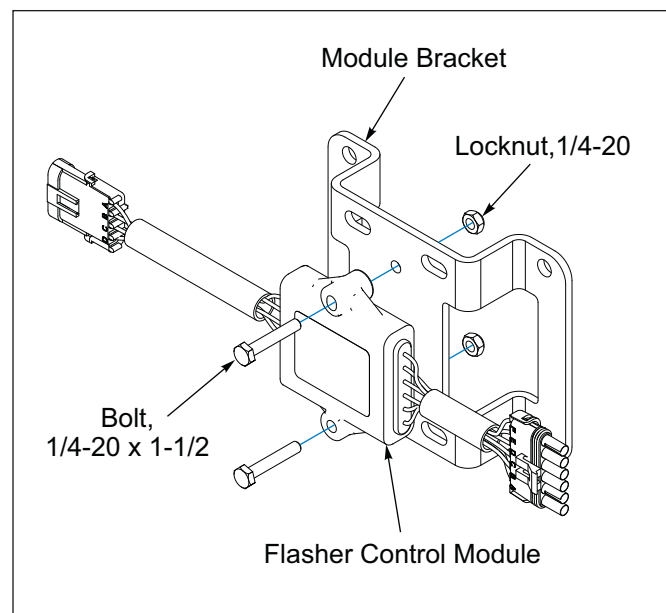

Figure 2-16: Flasher Control Module and Bracket
3. Attach the Flasher Control Module to the Module Bracket with 1/4-20 x 1-1/2 Bolts and Locknuts. **See Figure 2-16.**